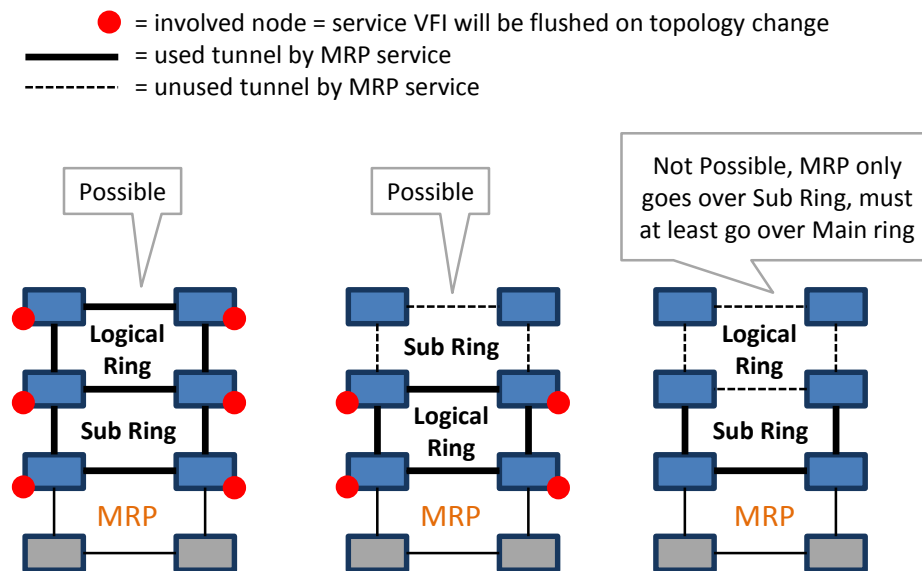

Figure 106 Involved Node: Flush VFI
- ▶ Review: Involved Nodes: A data service node that is also positioned in the used tunnels of the MRP service. When a topology change occurs in the MRP ring, the VFIs of the involved services in that involved node will be flushed (see also Figure 106). This topology change has no impact on the other VFIs in that node.